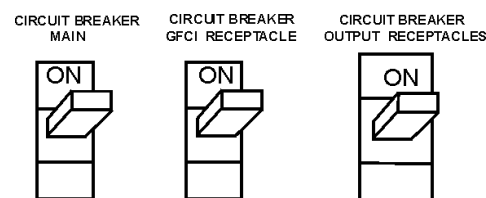

Figure 28. Main and GFCI Circuit Breakers
16. Turn the MAIN, GFCI and LOAD circuit breakers to their ON position (Figure 28).